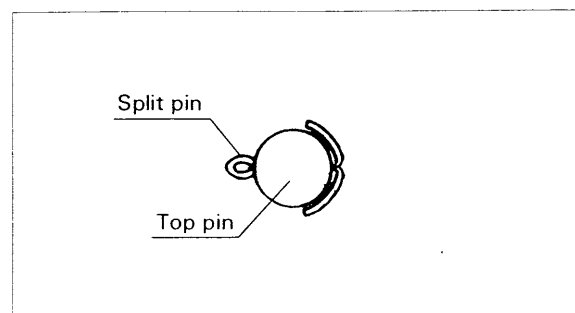

Fig. 2
- Firmly bend the pointed end of the split pin as shown in Fig. 2.
Mount the suspender E to the hoist body using the top pin (or top bolt), and a nut which has been removed as above, and a new split pin. Firmly bend the pointed end of the split pin as shown in Fig. 2.
Mount the suspender G to the connection yoke with the connection yoke rubber, the yoke bolt and the slotted nut. Then insert a new split pin and bend it securely as shown in Fig. 2.